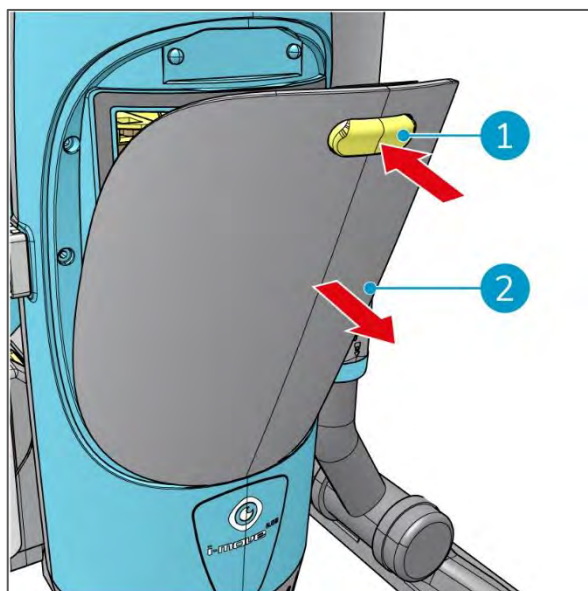

Figure 21
2. Push the yellow button (Figure 21, pos 1) to unlock the hatch.
3. Remove the hatch (Figure 21, pos 2).
7. Replace the hatch (Figure 21, pos 2).